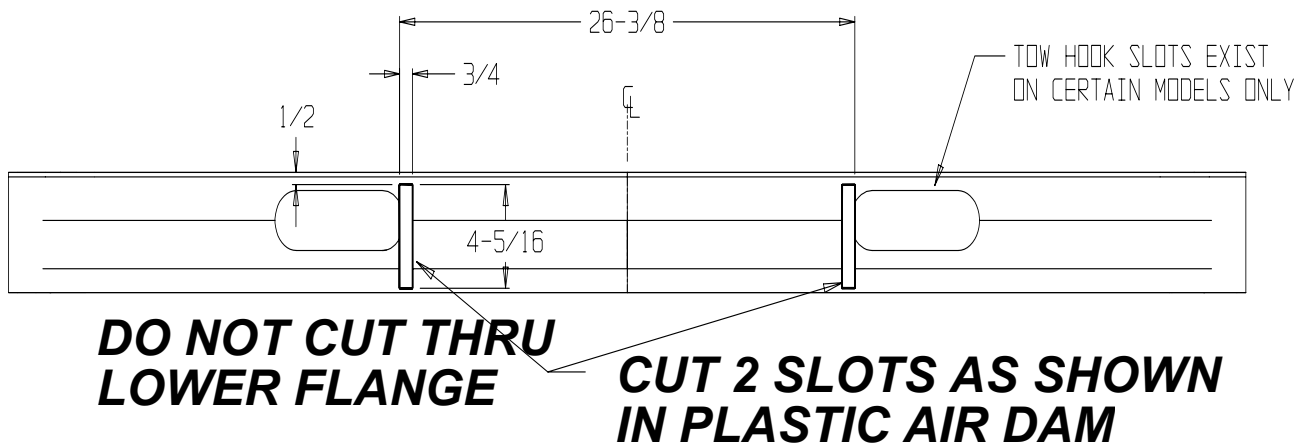

Figure 2
4. If an air dam is being used, refer to **Figure 2** and cut slots as shown. Slide the air dam over the frame extensions, but do not attach to the bumper at this time.